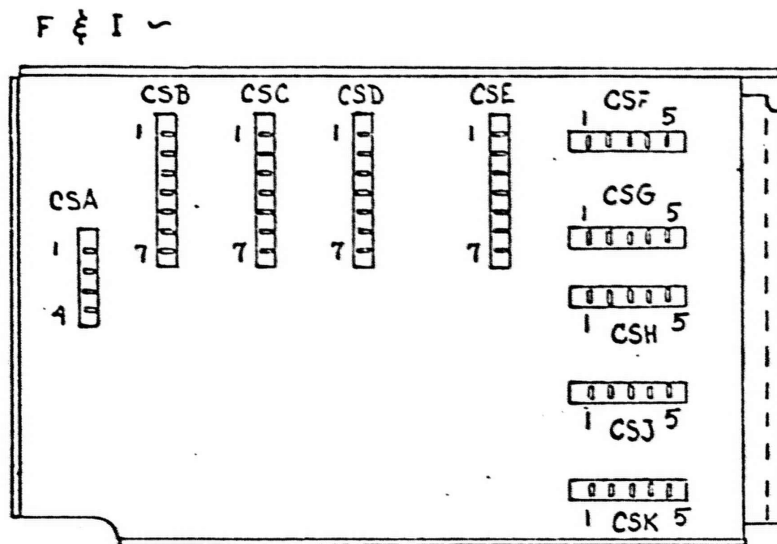

FIG. 1.
- a) Replace R806, a 100k 1/2W 10% resistor, located between CSJ-4 and CSK-4, with an 82k 1/2W 10% resistor. See Fig. 1.